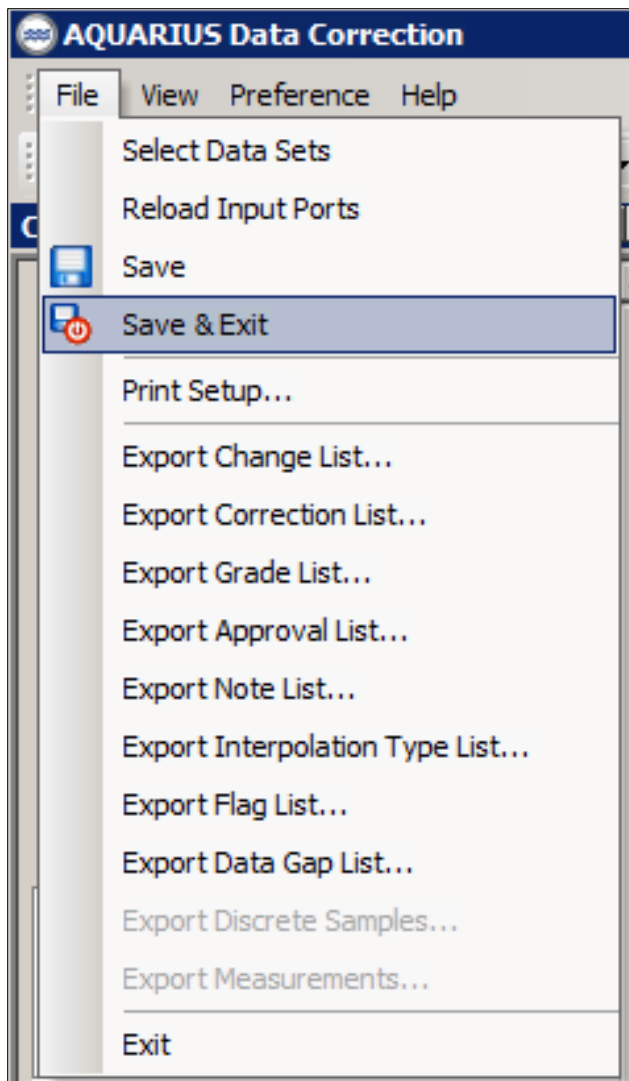

Figure 12. A screenshot showing the File tab option on the Aquarius Data Correction window.
16. Once the data have been verified, it is important to select “Save & Exit” from the file menu. Simply exiting this window will not save your changes and could prevent the data from appearing as it should when accessed through the Aquarius web data portal (Figure 12).